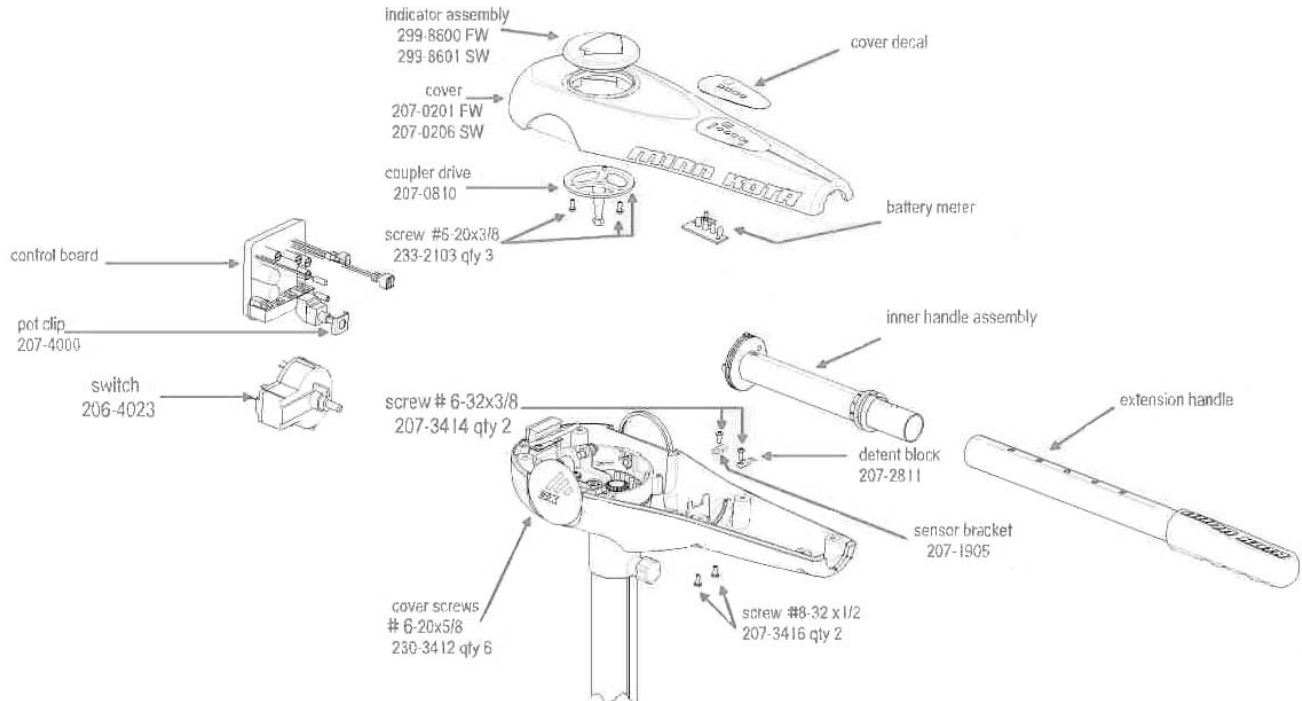

Fig. 3
Step 1. Start by removing the extension handle from the inner handle by pressing down on the handle by pressing down on the handle latch / detent button located on the top side of the handle near the control box. With latch button depressed, slide the extension handle off and clear of the inner handle. (see **Fig. 3, page 17-2**)
Step 2. Remove the six Phillips, pan head screws (#6-20 x 5/8”) located on the underside of the control box assembly. (2 screws at front, middle, and rear of control box) (see **Fig. 3, page 17-2**)
- Step 3.** Lift up the inner handle assembly along with the handle pivot, handle bearing, and potentiometer (variable-speed motors) or speed selector switch (5-speed motors). Disengage the inner handle assembly from the “D” shaft on the potentiometer/switch, remove the inner handle, and set it aside for reassembly. (see Fig. 3)
- A-2.** On variable-speed 3X models, loosen the Phillips pan head screw (P/N 2073414, #6-32 x 3/8”) holding the P/N 2071905 sensor bracket in place. (Sensor bracket is located in control box along side the potentiometer support.) Loosening the screw allows removal of the magnetic on/off reed switch attached to wires exiting the control box. (On/off reed switch is the small 5/8” long, 3/16” diameter black cylinder with 2 small black wires attached.) Then remove the two P/N 2073416, #8-32 x 1/2” socket head cap screws (located in recessed openings on the underside of the control box) using a 9/64” allen wrench/driver. The control board is then free to be removed. (see Fig. 3)
Step 10. Re-install the control board or 5-speed switch using the fasteners or parts removed during disassembly. (see Fig. 3, page 17-2)